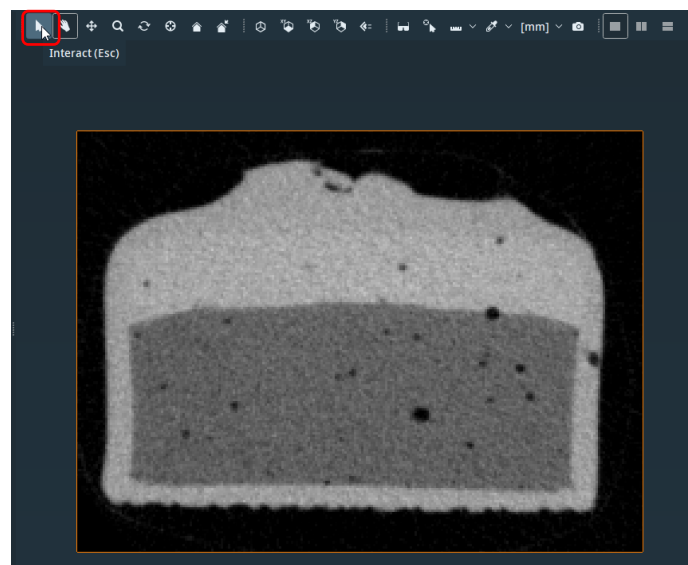
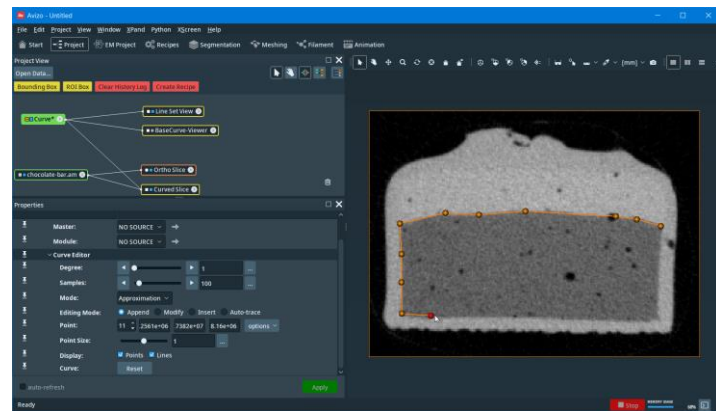
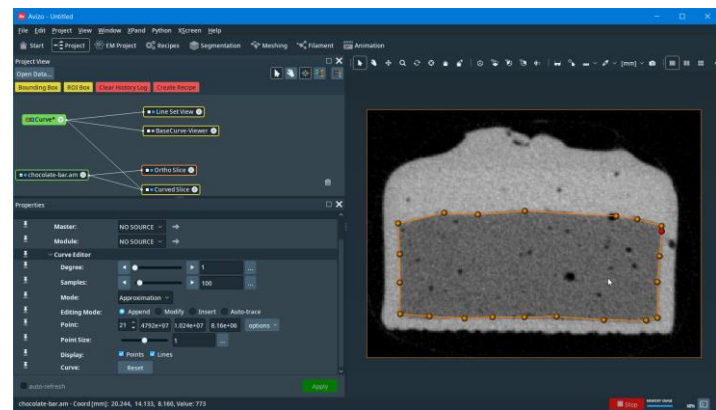

Figure 6
Figure 8
Figure 9
10. Switch to “Interact” pressing the Arrow icon in the toolbar Figure 6. Now you can select several points to approximate the underlying data structure boundary contour. To select them click the mouse middle button using a unique orientation order (proceeding for instance counterclockwise as in this example). The number of points and the order chosen are arbitrary, anyway it is mandatory to use the same number of points and the same orientation rule for all the contours). See Figure 9, Figure 8, Figure 9. The contours must not cross intersect and must not be necessarily closed.